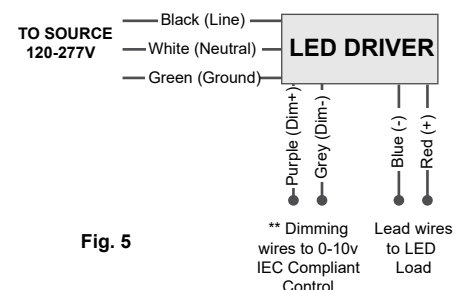

Fig. 5
5. Follow wire connection instructions. Plug in AC line (L and N and GND) to the LED Driver using 18-14AWG Wire. (Fig. 5)
5. Connect LED driver to AC main power. (Fig. 5)